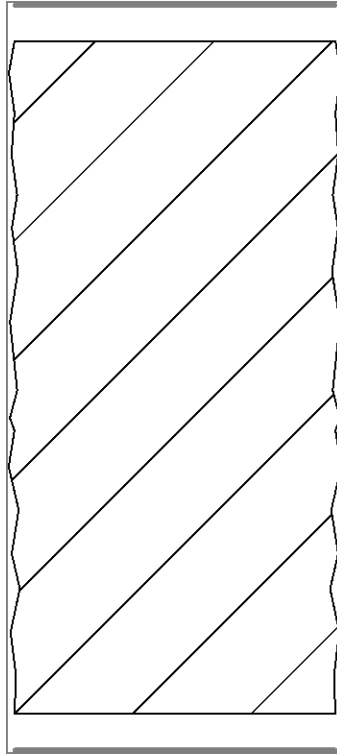

FIGURE 12.19: The finished soldier
18. Click Finish Edit Mode. Your brick should resemble Figure 12.19.